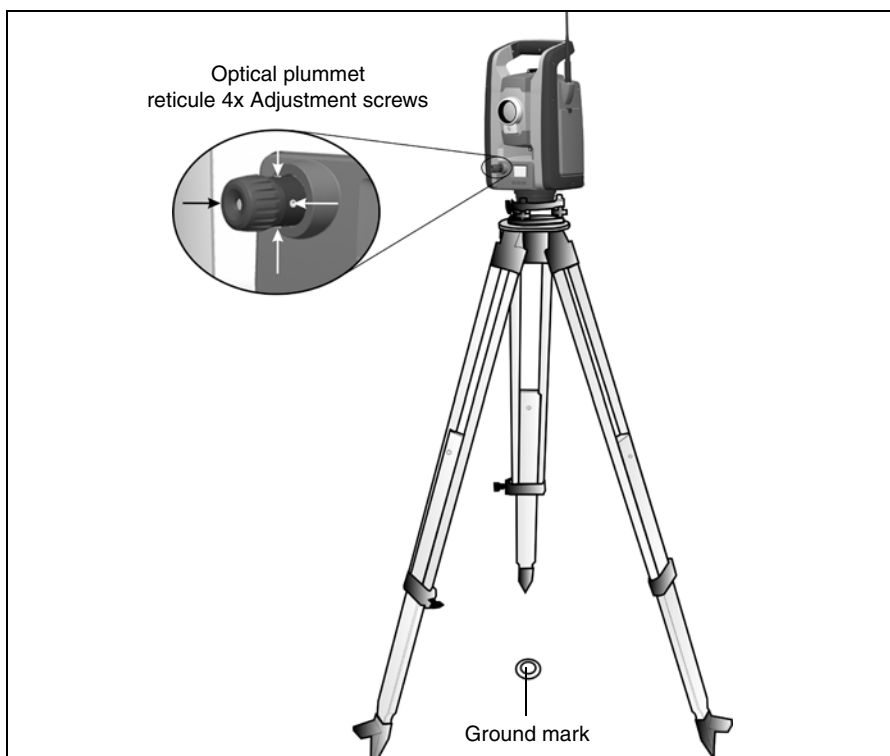

Figure 4.34 Optical plummet adjustment
1. Set up the instrument and level it over a ground mark so that the tripod height is 1.5 m ( $\pm 0.1$  m) (4.920 ft. ( $\pm 0.328$  ft.)). Figure 4.34